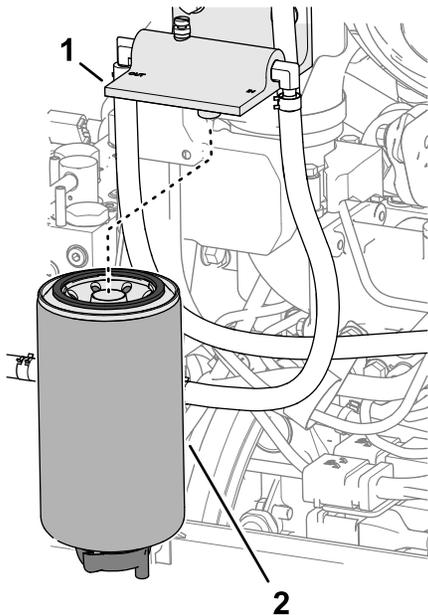

Figure 82
2. Clean the fuel-water separator filter and filter head (Figure 82).